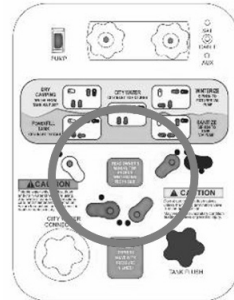

Fig 3: Set 3 valves to 45°
- Turn only the BLUE, GREEN, and WHITE valve handles so they are at a 45° angle for 10 seconds (**Fig 3**). The pump should still be ON.